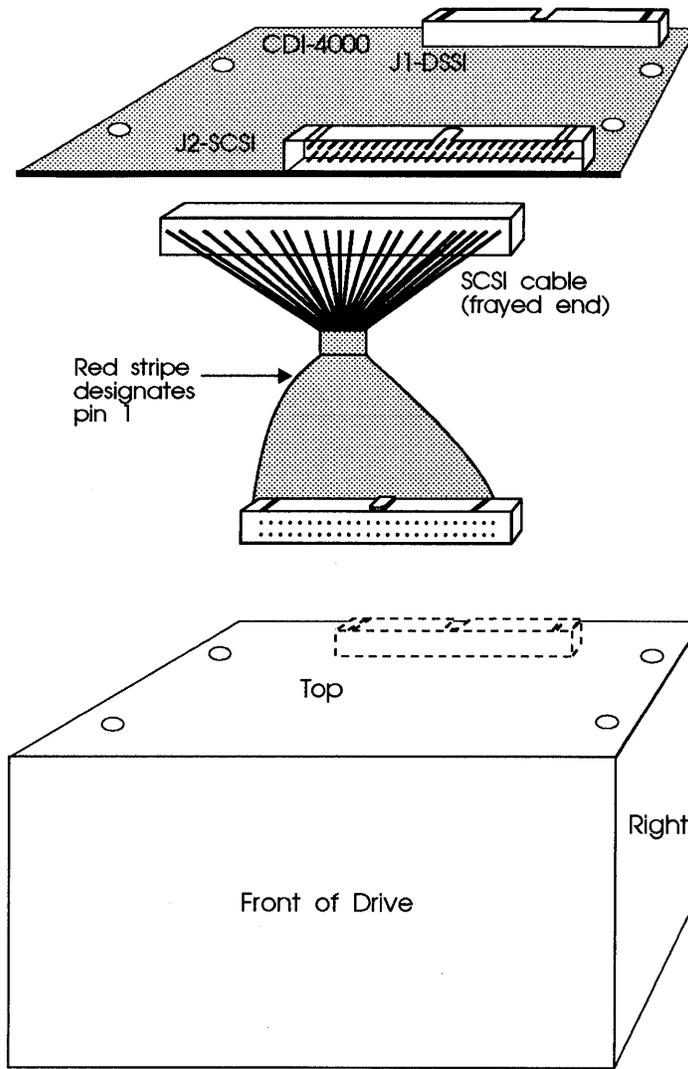

Figure 5-2: SCSi cable connection
- 4 Connect the frayed end of the SCSI cable to J2 on the CDI-4000 and the other end to the SCSI connector on the drive. Place the flat portion of cable between the CDI-4000 and drive. See Figure 5-2.